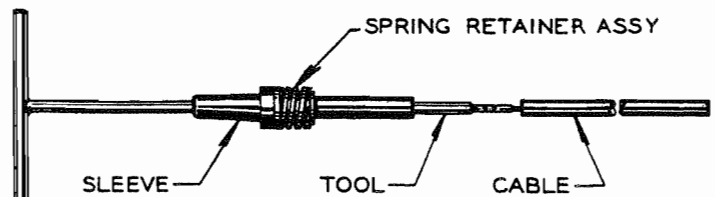

Figure 912
- (5) Place outer ferrule (50A) over terminal (51A) past insulation and into shielding of cable.
- (6) Place ferrule (49) over terminal (51A) into insulation and start under shielding of cable.
- (7) Feed terminal (51A) through elbow (35).
- (8) Tighten nut on elbow (35) onto outer ferrule (50A) to seat ferrule (49). Nut may then be loosened until installation on engine is complete.
- (9) Slide sleeve (33) over insertion tool (Figure 912). Slide spring (48) over sleeve (33). Tapered side of spring retainer must rest against on sleeve (33).
- (10) Screw insertion tool to terminal (51A) and work sleeve (33) off of tool into elbow (35). Unscrew insertion tool.
- (6) Assemble spring (48) and sleeve (47) onto lead. Tapered side of spring retainer must rest against taper on sleeve (47). Use assembly tool shown in Figure 912 as necessary.
- (7) Assemble spring (45) onto terminal (51A).
- (8) Clean terminal as described in CLEANING, paragraph 5.2.
- (9) Test lead as specified in TESTING AND FAULT ISOLATION, paragraph 3.2.
- (6) Assemble sleeve (46) onto lead. Use assembly tool shown in Figure 912 as necessary.
- (7) Assemble spring (45) onto terminal (51).
- (8) Clamp (11), screw (5) and nut (7) may be assembled loosely at this time. Do not tighten fasteners until terminal is installed in spark plug on engine.
- (9) Clean terminal as described in CLEANING, paragraph 5.1.
- (10) Test lead as specified in TESTING AND FAULT ISOLATION, paragraph 3.2.